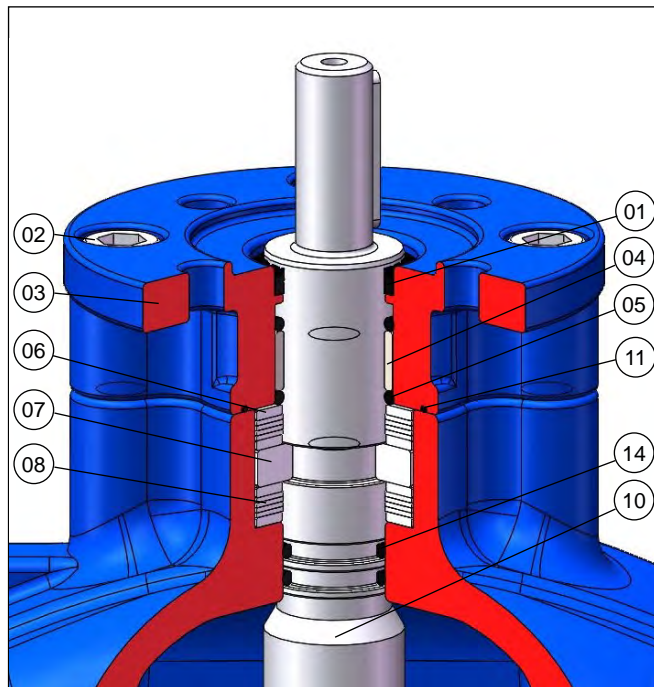

Fig. 3
- (1). Check that the valve still functions correctly by operating it for a minimum of five turns.
- (2). Direct mounted electric actuator open and close positions are pre-set at the works, and should not need adjustment but torque settings may need adjustment by a suitably qualified engineer.
- (3). Pedestal mounted actuators must be set on site.
- (4). Where pedestals are fitted with open / close indicators, attention must be made during connection to ensure that they correctly reflect the position of the valve.
- (5). Where a venting plug or valve is fitted, this should be used to remove the air from the valve. Alternatively, where this is not provided, air can be removed by loosening the gland bolts(See Page 9, Fig 3, Item 2).
- (6). When all the air has been safely vented, the cap, valve or gland bolts must be re-tightened ensuring that any gaskets or washers are correctly seated.
- (7). When the pipeline has been charged, inspect the valve for any leaks and adjust as necessary in accordance with maintenance instructions.
- (8). All external debris and foreign matter should be cleaned off from the external surfaces of the valve.
- (9). Any paint / coating which has been damaged during installation should be appropriately touched up.
(2). Remove the Gland flange(03) with Wiper ring(01) attached. (The Wiper ring is a "Factory Installed" press fit and therefore must be reordered as an assembly along with the Gland flange)(See Fig. 3).
(3). When performing step 2, verify the location of the Upper Stem Seal O-rings(04) and the Stem Seal slide bearing(05). They may be located on the Stem(10), or in the counterbore of the Gland flange(03).